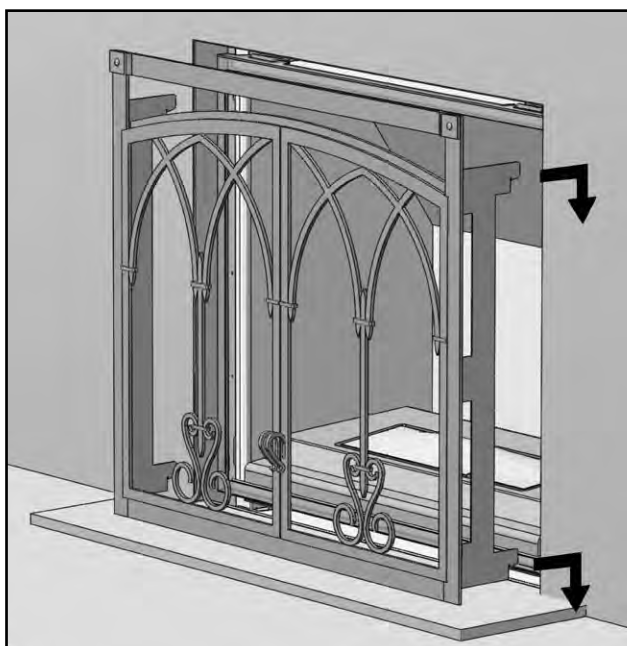
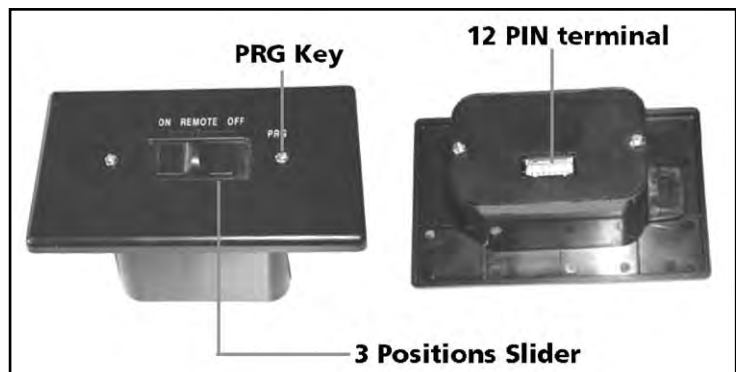

Figure 103: Optional Front Being Installed.
Figure 107: Proflame Receiver.
The Proflame Receiver (Figure 107) connects directly to the gas valve, stepper motor, DFC, and Fan Control Module with a wiring harness. The Receiver is powered by four (4) AA type batteries. The Receiver accepts commands via radio frequency from the Transmitter to operate the appliance in accordance with the particular Proflame system configuration. The Receiver three (3) position slider switch can be set to one of three positions: ON (Manual Override), Remote (Remote control), or Off.
Install the four (4) AA batteries into the receiver battery bay. Note the polarity of the battery and insert into the battery bay as indicated on the Battery cover (+/-). Place the 3-position slider switch in the "Remote" position (see Figure 103). Using the end of a paper clip, or other similar object, insert the end of the paper clip into the hole marked "PRG" on the Receiver front cover (see Figure 107).